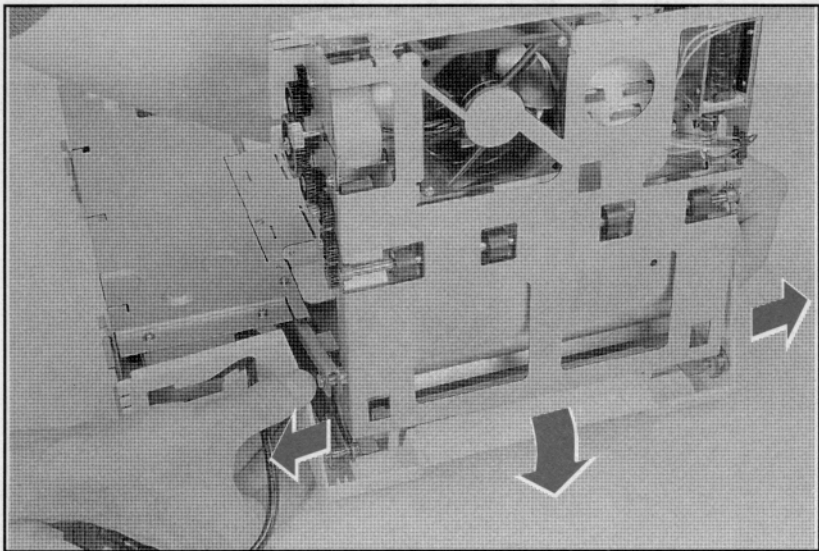

Figure A-9 **Back Cover**
- 2 Release the (2) locating pins as shown in Figure A-9.